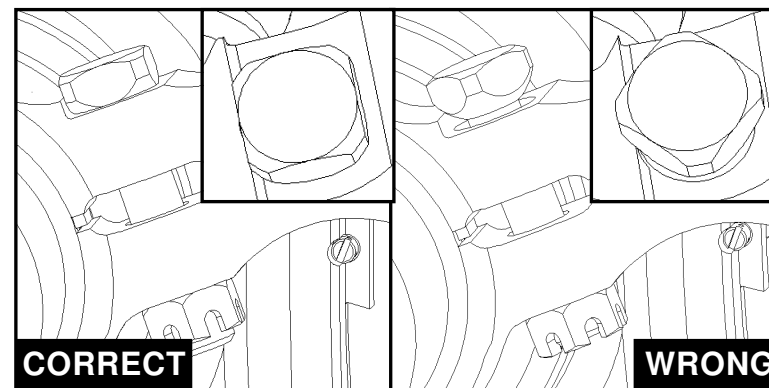

Figure 5-6
- (7) Lubricate the threads of clamp bolt and nut with anti-seize compound per MIL-PRF-83483 (e.g. Loctite Moly 50), Loctite 8012 Moly Paste, or Mogul G3 paste (or another G3 paste). Position the bolt head against the lock on the clamp (Figure 5-6). Hold the bolt head with one hand, and screw the nut with the other hand until snug. Torque the nut to 65-70 Nm (48-52 lb-ft). Check correct position of the bolt head after torquing.
- (8) Check the blade for correct position in the bushing after torquing the clamp. If necessary, loosen the clamp, reposition the blade in the bushing, and retorquer.